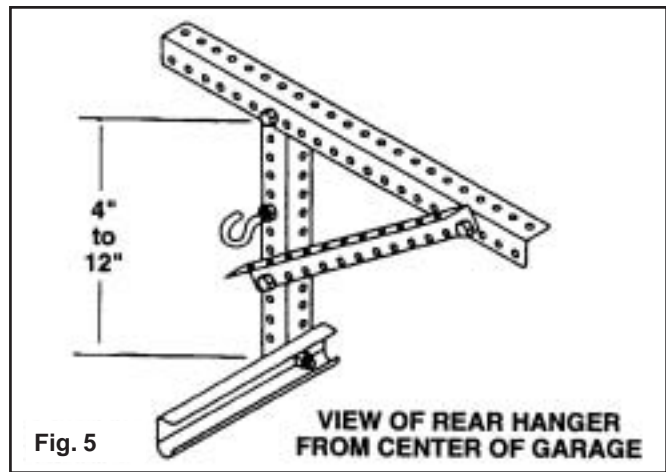

Fig. 5
Step 4: Assemble one $\frac{5}{16}$ " eye bolt with one $\frac{5}{16}$ " flange nut on each side of the rear track hanger. The eye bolts should be about 12" above the track to keep the spring assembly from dragging on the track. The eye bolts can be as low as 4" above the track if you have limited headroom. Tighten the $\frac{5}{16}$ " flange nuts. (FIG. 5)